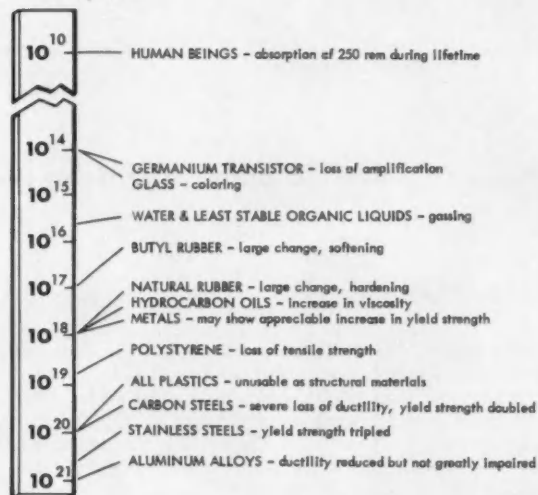

Fig. 2—All aircraft and cargo material have to be pegged for radiation tolerance.
- No cargo damage—see Fig. 2 for radiation damage to materials.